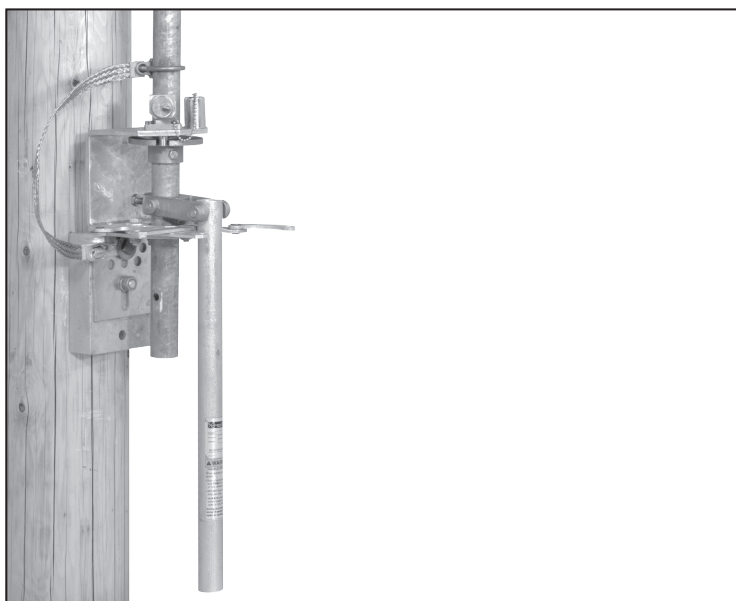

Figure 48. Disengage the key interlock bolt.
STEP 42. If the operating-handle assembly is furnished with a key interlock, disengage the interlock bolt. See Figure 48.